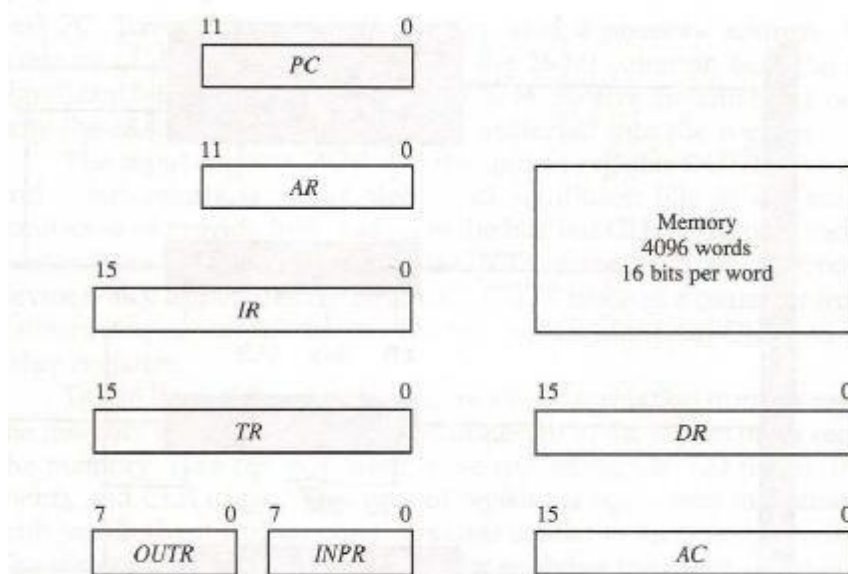

Figure 5-3 Basic computer registers and memory.
- The above requirements dictate the register configuration shown in Fig. 5-3.